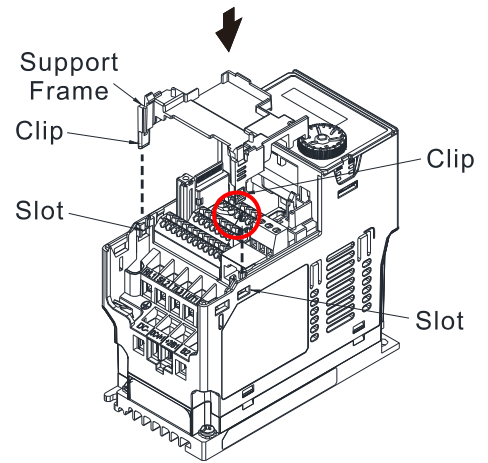

Figure 8-11
3. Assembling support frame: as shown in the Figure 8-11, aim the two clips at the two slots on the motor drive and then press downward to have the two clips engage the slots.